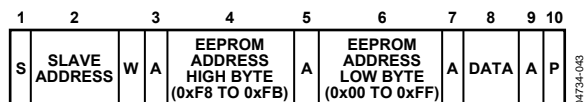

Figure 32. Single Byte Write to the EEPROM
- To write a single byte of data to the EEPROM. In this case, the command byte is the high byte of EEPROM Address 0xF8 to EEPROM Address 0xFB. The first data byte is the low byte of the EEPROM address, and the second data byte is the actual data, as shown in Figure 32.